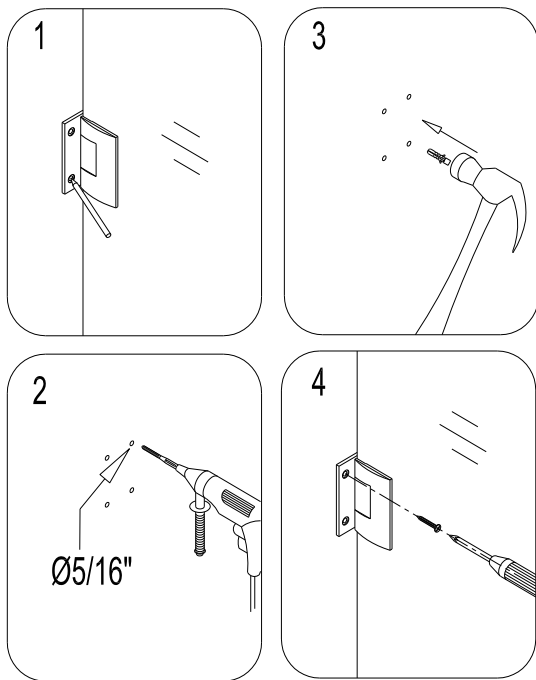

fig. 3
3. Mark the screw positions for both hinges on the wall. Set the door aside, drill the holes in the wall, and insert the **Wall Anchors (03)**. Place the glass door again on the flat timber and attach both hinges to the wall with **Countersunk screws ST5x50 (04)**. See fig. 3 for details.